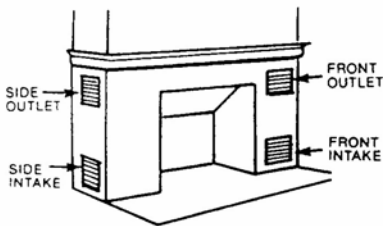

FIG. 6 Air outlets may be above mantel
**Step 6** Plan the location of the warm air outlet grille in the same manner cold air intake. If the warm air outlets are extended any distance beyond the masonry the duct work should be insulated. Air inlets and outlets may be located in so many different positions that it is beyond the scope of these instructions to cover specific details. (See Figure 6)